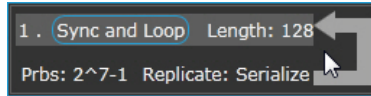

Figure 38 Analyzer controls
- 4 Click in the **Analyzer** block as shown in Figure 38 on page -90.